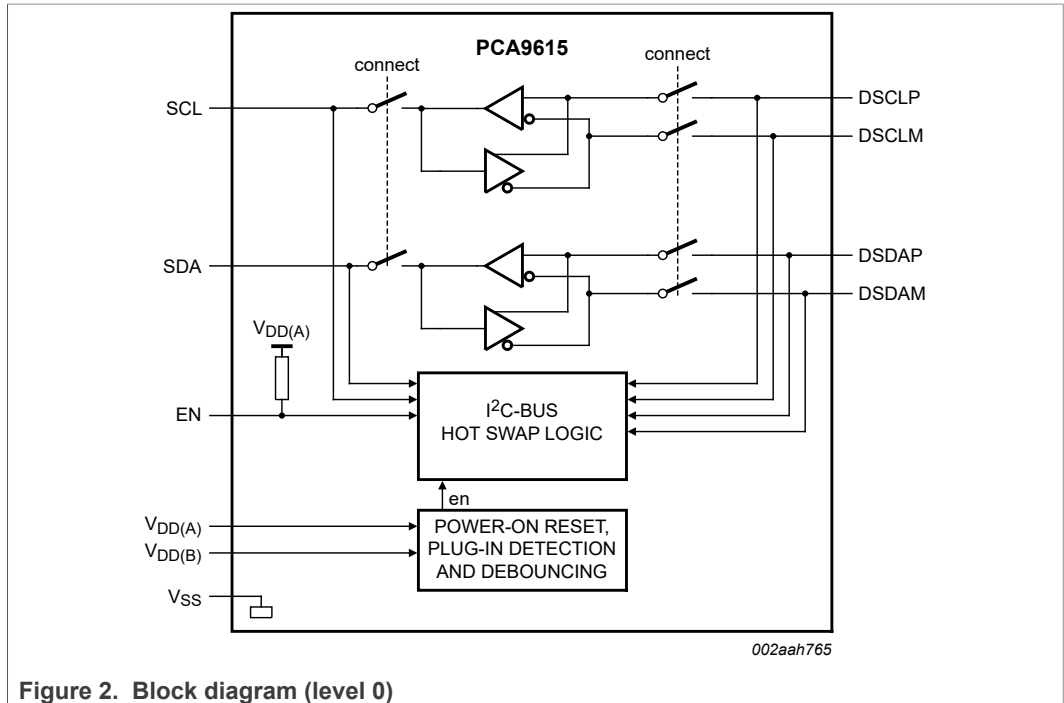

Figure 2. Block diagram (level 0)
Refer to Figure 2.
During a power-on sequence, an initialization circuit holds the PCA9615 in a disconnected state, meaning all outputs — SDA, SCL and the differential pins DSCLP/DSCLM and DSDAP/DSDAM — are in a high-impedance state. As the power supply rises (either power-up or live insertion), the initialization circuit enters a state where the internal references are stabilized and an internal timer is triggered. After 1 ms, power is applied to the rest of the circuitry and the PCA9615 detects the status on the differential DSCLP/DSCLM and DSDAP/DSDAM lines. When the differential lines are detected as connected to a bus with valid termination, that is, both DSCLM/DSDAM < 0.9 × VDD(B) and DSCLP/DSDAP > 0.1 × VDD(B), another timer is triggered. At the end of 10 ms, hot-swap logic (Figure 2) is enabled and the EN pin can detect a Stop Bit and Bus Idle condition. However, there is still no connection between SDA and DSDAP/DSDAM or between SCL and DSCLP/DSCLM. A successful EN pin sequence must occur for actual connection.